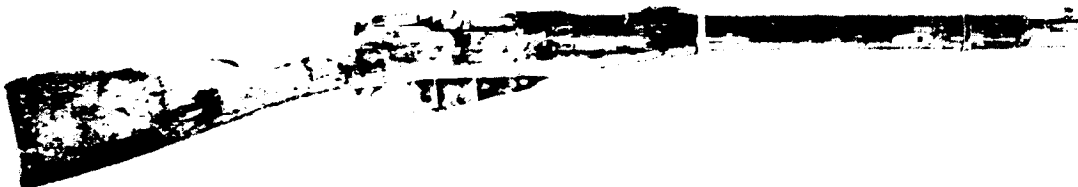

FIGURE 5. 7.62-MM CARBINE M1910.
a. Although Imperial Russia adopted the Mosin-Nagant rifle in 1891, a true carbine did not appear until 1910. The carbine M1910 (fig. 5), with its leaf sight and sling slots, has characteristics of both the original and later versions of the rifle M1891. The carbine M1910 has a hexagonal receiver and does not take a bayonet. This model is comparatively rare and is believed to be obsolete.